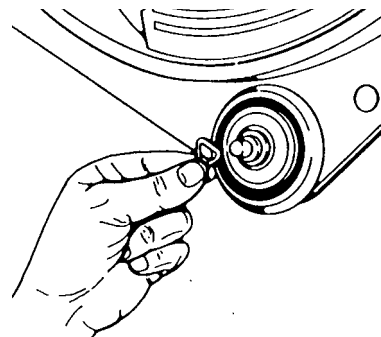

Fig. 43
2. Remove the tri-ring and the support rollers. (Fig. 43)